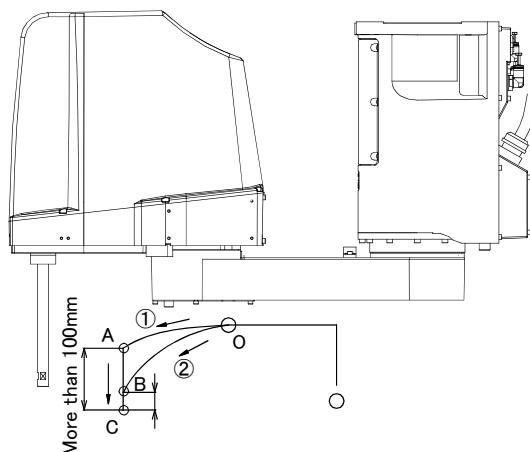

Fig.2-11 : Recommended path when positioning at the bottom edge of the Z axis
- 3) When positioning the work near the bottom edge of the Z axis, if no effectiveness is achieved in step "2)" above, perform operation ① (robot path: O → A → C). In the case of operation ② (robot path: O → B → C), residual vibration may occur. (Refer to Fig. 2-11.)